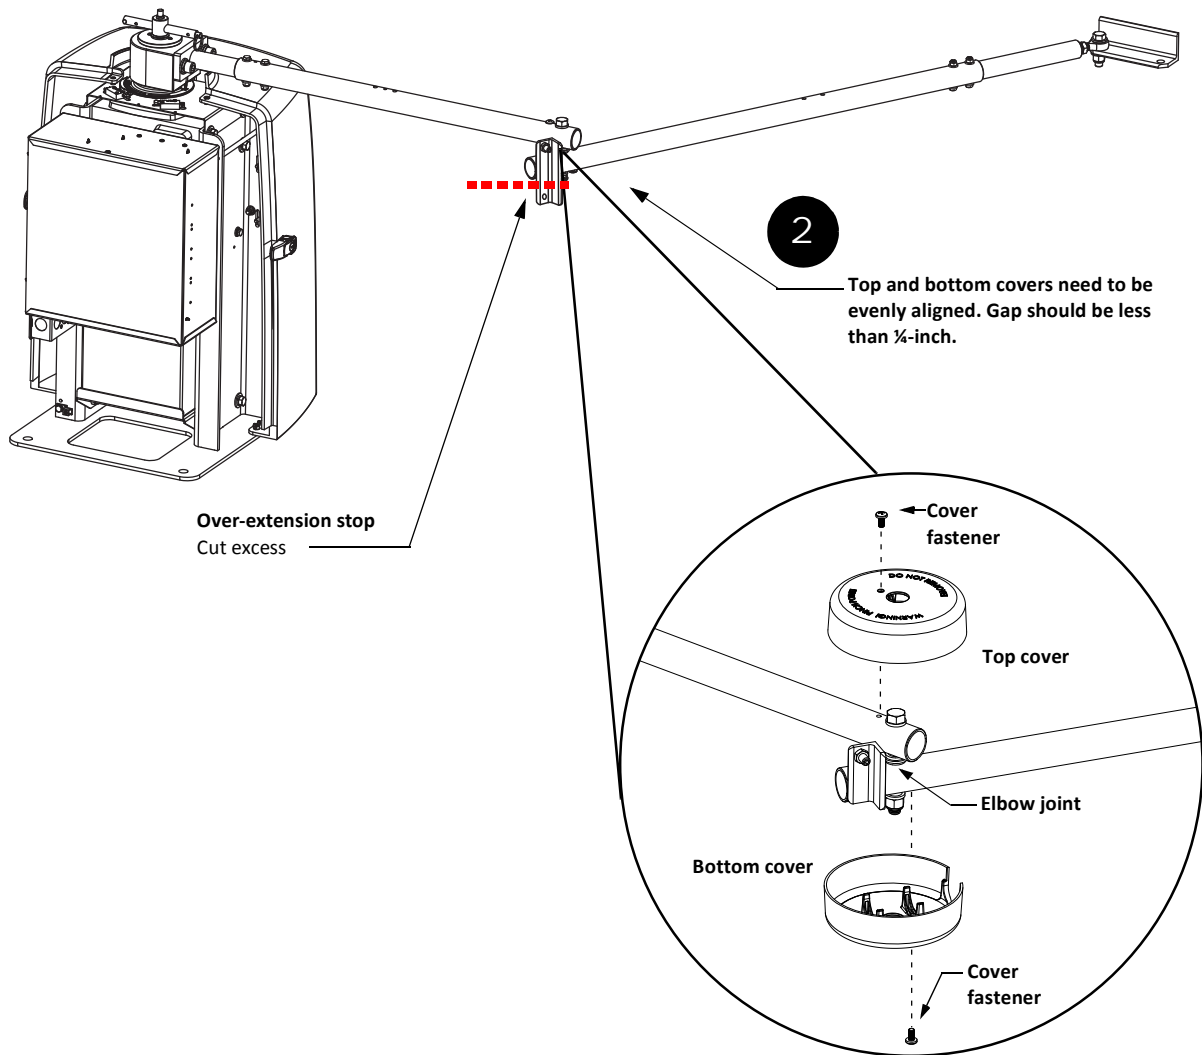

Figure 1-15.
6. Make sure the gap between the top and bottom covers is evenly aligned. See Figure 1-15.